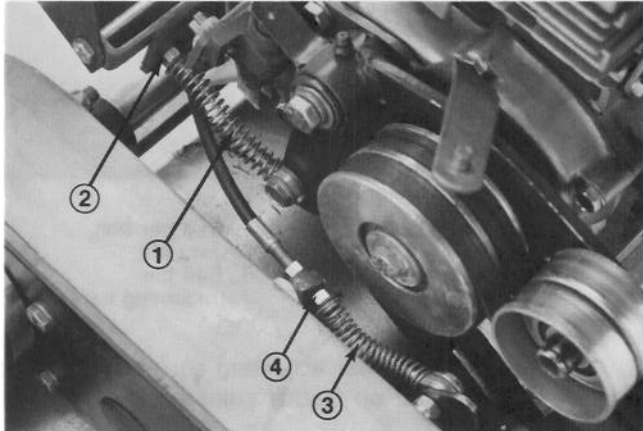

Figure 40
3. To increase cable tension, loosen front cable jam nut and tighten back cable jam nut (Fig. 40) until a force of 3–5 lbs. is required to engage traction control. Force to be measured at control knob.
2. Remove wing nut securing belt cover and pivot cover (Fig. 40).
3. To increase cable tension, loosen front cable jam nut and tighten back cable jam nut (Fig. 40) until a force of 3–5 lbs. is required to engage brake. Force to be measured at lever knob. Do not over adjust, so brake band drags.